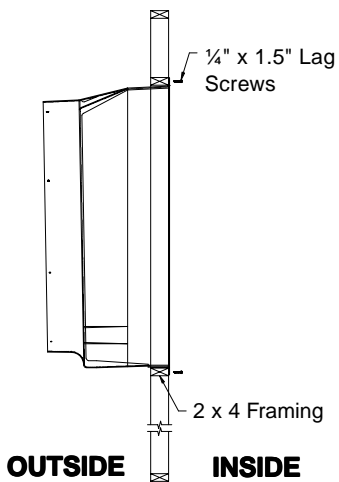

Figure 2
- 2) Insert fan into the framed opening from the inside and fasten with (12) ¼" x 1.5" Lag Screws (provided). Be sure to hold top and side flanges level when fastening to keep top from bowing. Install flashing around opening tight to fan and caulk around fan to seal. **See Figure 2.**